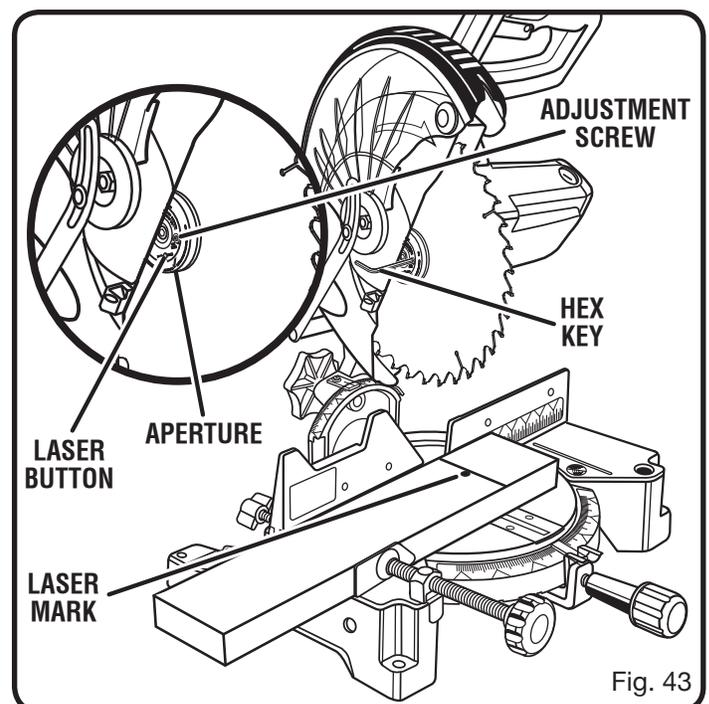

Fig. 43
See Figure 43.
- Rotate the blade by hand until you can push and hold the laser button and the laser is near the center of the workpiece as shown in figure 43.
- To adjust the laser, turn the adjustment screw counter-clockwise or clockwise using the hex key (1/16 in.) provided.